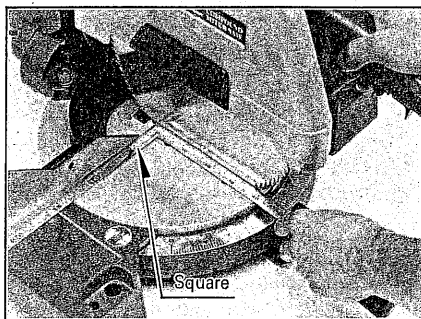

Fig. 16
5. If the front or back edge of the saw blade angles away from the square, use the hex key to loosen the two socket head screws that secure the mounting bracket to the turntable as shown in Figure 16.